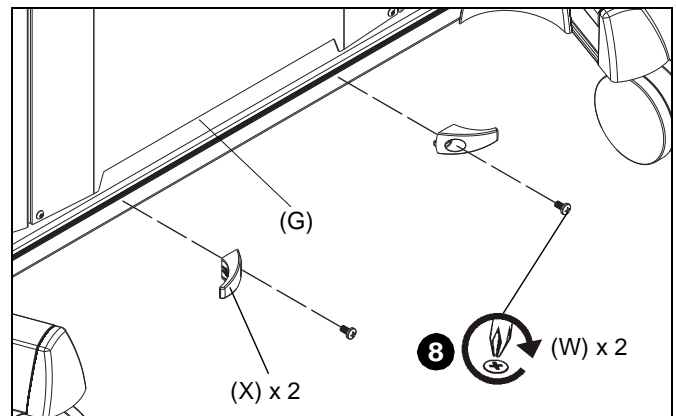

Figure 18
8. Use two 1/4-20 x 1/2" Phillips pan machine screws (W) to attach two cable hooks (X) to bottom of column assembly (G). (See Figure 18)